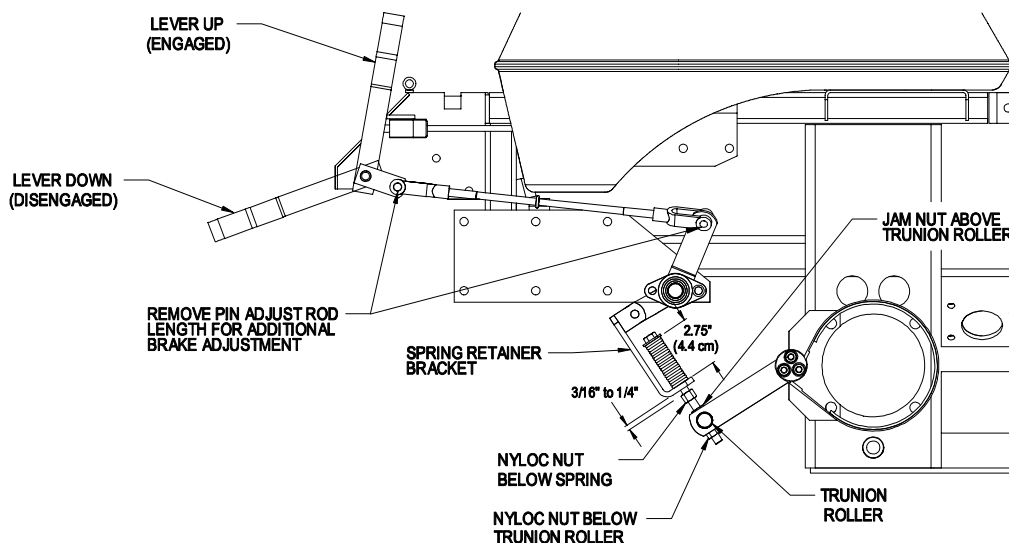

FIGURE 16
- b) Measure the length of the spring. Measurement should be 2.75" (7 cm) (See Figure 16).